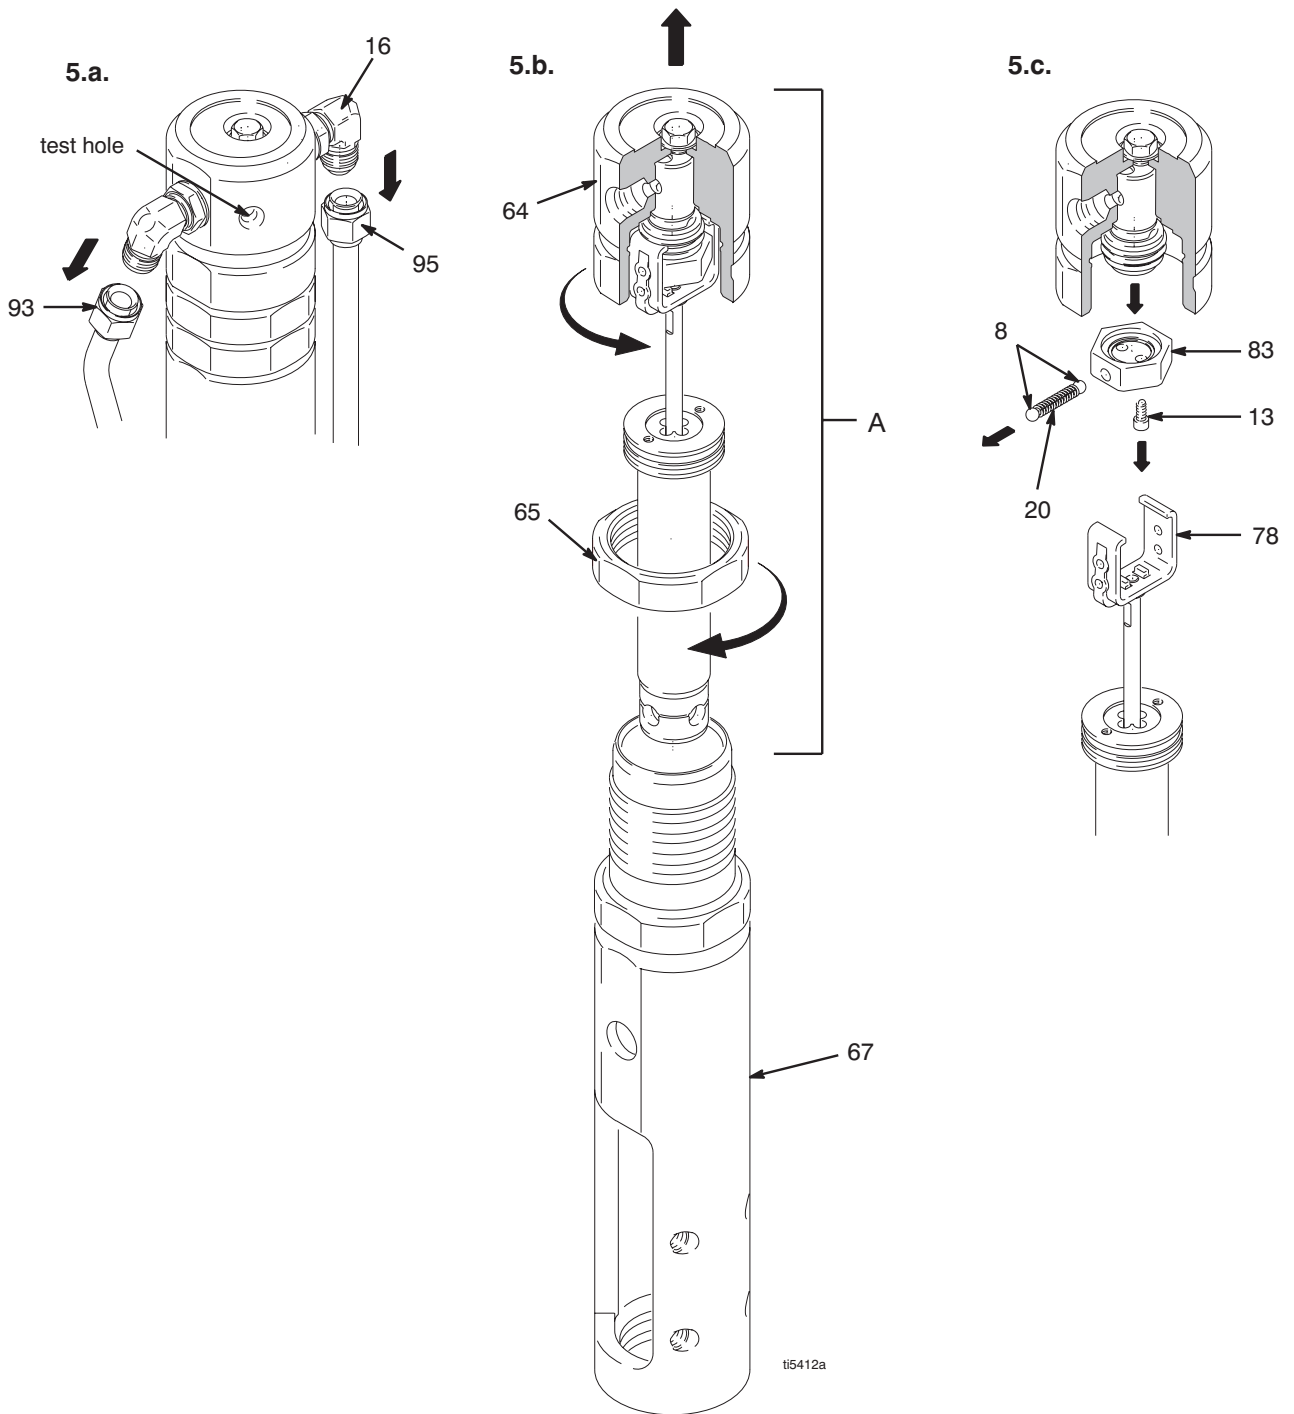

FIG. 5
2. Remove pump pin (92) and retainer clip (120), page 15.
3. Fig. 5. Remove hydraulic lines (93, 95) from fittings (16) at top left and right side of hydraulic motor.
4. Loosen jam nut (65).
5. Unscrew and remove hydraulic motor cap (64).
6. Slide piston rod/hydraulic motor cap assembly (A) from hydraulic motor cylinder.
7. Remove yoke (78).
- a. Fig. 5. Clamp hydraulic motor cap in vise with hydraulic motor piston rod facing up.
- b. Use shortened Allen wrench to remove two screws (13) from spring retainer (83). Remove yoke, spring retainer, piston and trip rod assembly from hydraulic motor cap.
1. Fig. 5. Put hydraulic motor cap (64) in vise.
2. Install yoke, spring retainer, piston and trip rod assembly in hydraulic motor cap. Use shortened Allen wrench to install two screws (13) in spring retainer to secure piston rod assembly to hydraulic motor cap.
3. Slide piston rod assembly (A) into hydraulic motor cylinder (67).
4. Screw down hydraulic motor cap (64). Unscrew hydraulic motor cap until inlet and outlet align with hydraulic line fittings and test hole in hydraulic motor cap points toward belt guard (117).
5. Torque jam nut (65) against hydraulic motor cap (64) to 150 ft-lb (17 N·m).
6. Fig. 5. Install hydraulic lines (93, 95) to fittings (16) to top left and right side of hydraulic motor; torque to 40 ft-lb (54.2 N·m).
7. Pull start rope slowly to align pin holes of hydraulic motor and displacement pump (111). Connect with pump pin (92); install retainer clip (120), page 15.